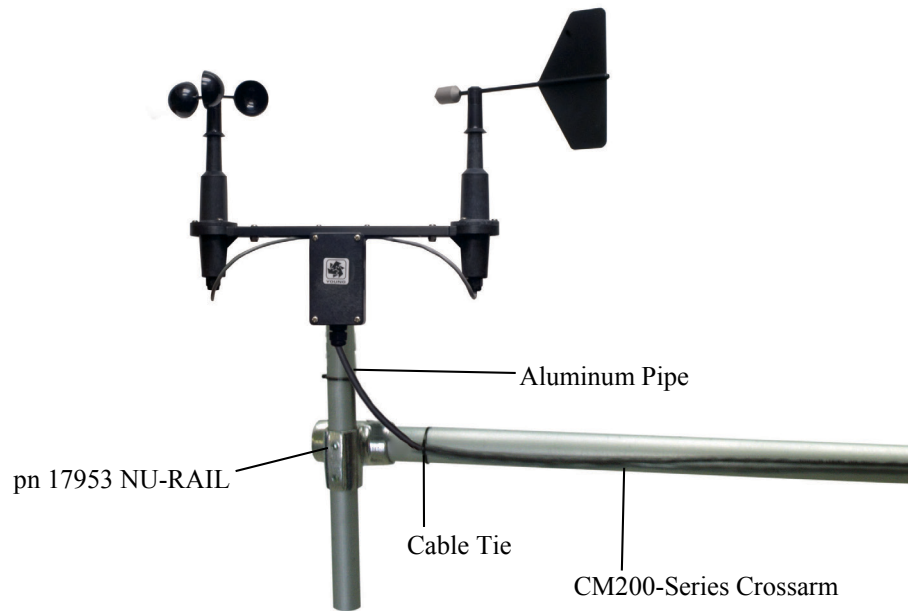

FIGURE 4-3. 03002 mounted to a crossarm with pn 17953
- 17953 1 x 1 inch NU-RAIL Crossover Fitting (FIGURE 4-3)